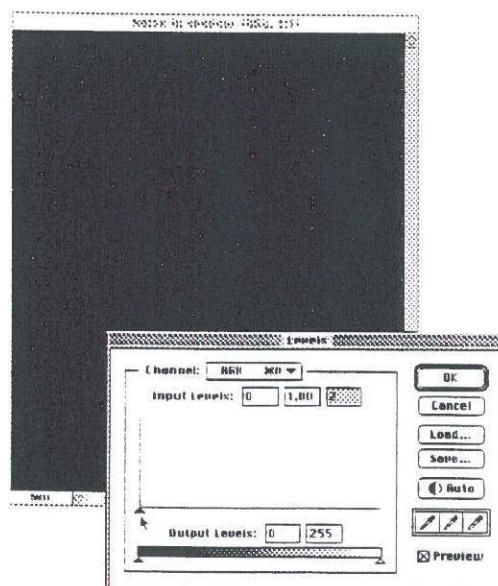

Fig. 2
- 10 • Fig. 2 shows an example of stripes in shadow when the black marker level is between 0 and 1. If there are stripes on the screen after steps 9 and 10, contact ScanView's support department.